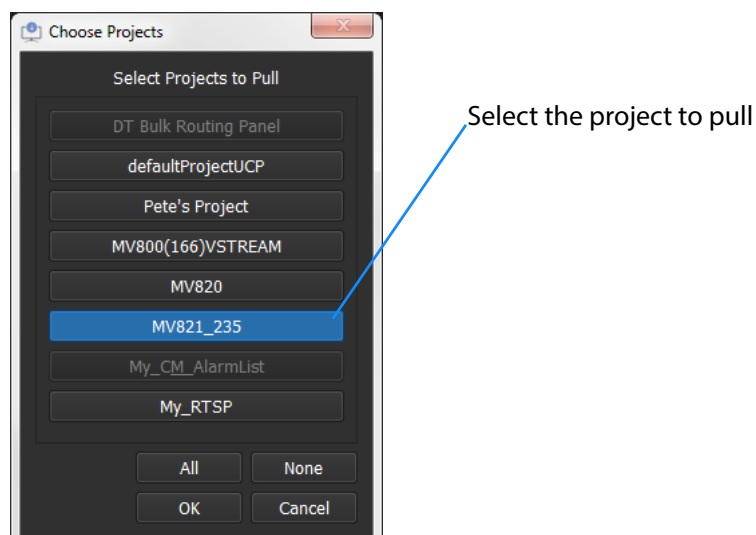

Fig. 9-26: Choose Projects Dialog
- 4 Select the project in the **Choose Projects** dialog (see Figure 9-26) and click **OK**.